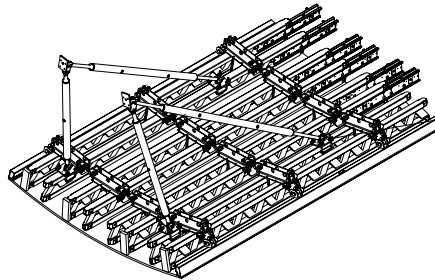

Fig. A8.01
- Always attach two push-pull props and kickers to the first panel which is to be positioned. (Fig. A8.01)